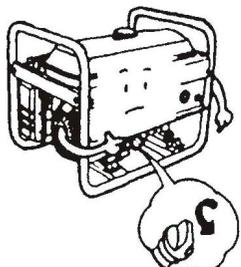

Figure 9
- Take out the oil filler cover and have the dipstick cleaned (Figure 9)